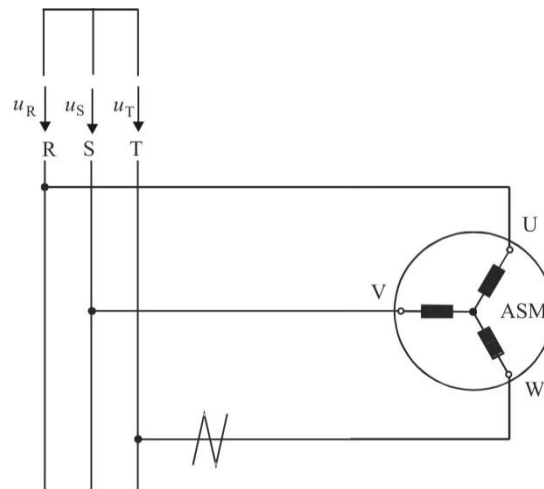

Fig. 25.1: Electric circuit with broken W connection
3) Due to a failure, the phase connection W of the induction machine breaks (Fig. 25.1). Calculate the space vector $\underline{i}(\tau)$ in p.u. after failure and draw the vector $\underline{i}(\tau)$ in a diagram.